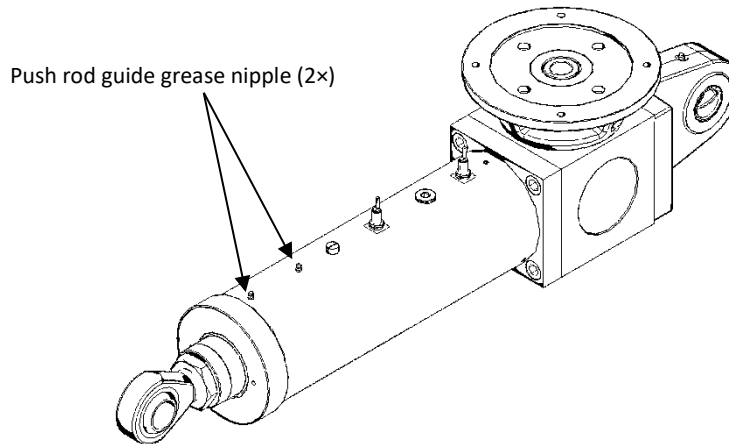

Figure 9.4 – Push rod guide grease nipple
- Relube the push rod guide using proper grease nipples (n°2 grease nipples), as shown on Fig. 9.4.